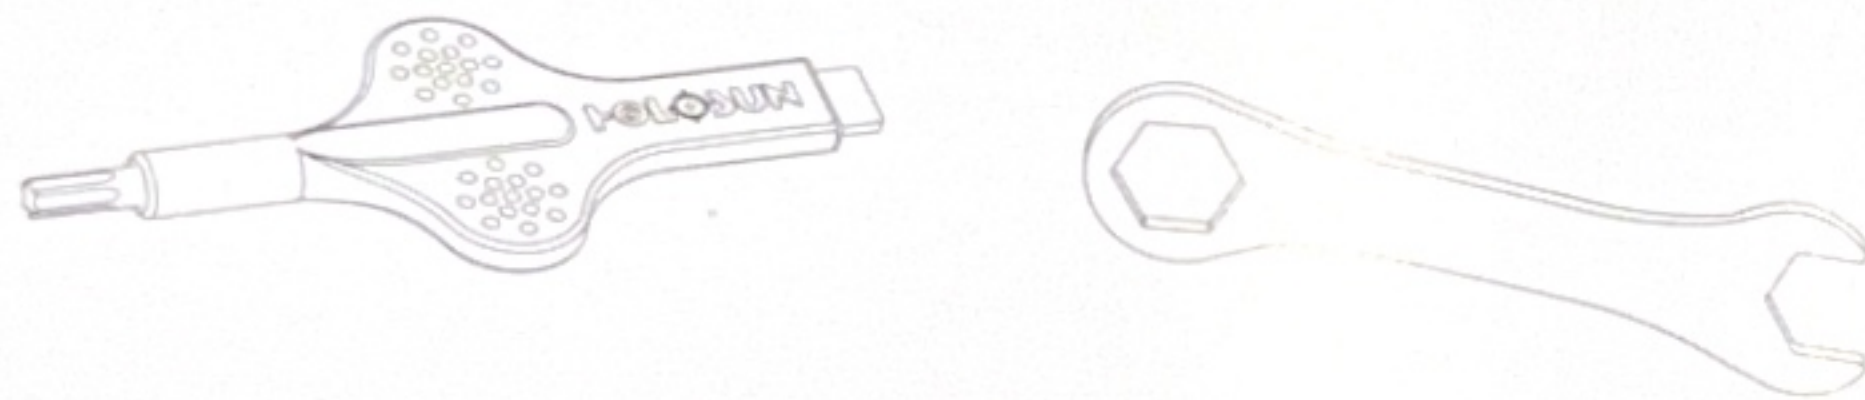

Fig 24
1. T10 Torx tool with flat driver to adjust windage & elevation. (See Figure 24)